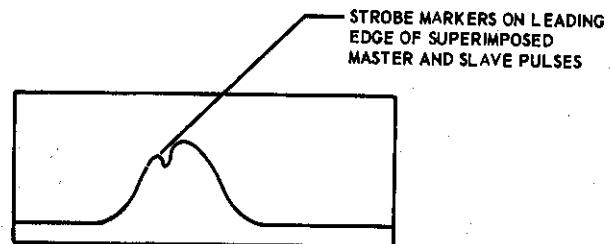

Figure 4-58. Operating Procedure for LORAN A Signal Acquisition Step 3h
h. Increase the slave gain until the slave pulse amplitude equals that of the master pulse. Adjust the DELAY control until the slave pulse is positioned directly over the master pulse. Now use the L-R framing control until the strobe markers lie on the leading edge of both pulses as shown in figure 4-58.